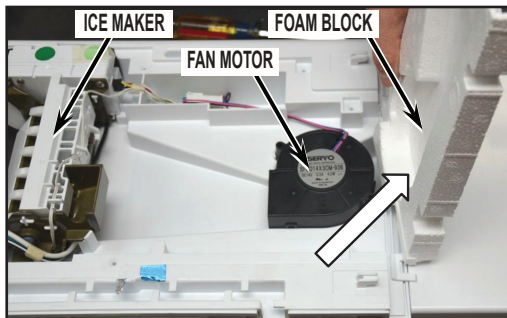

FIGURE 36
- Remove foam block. See *Figure 36*.